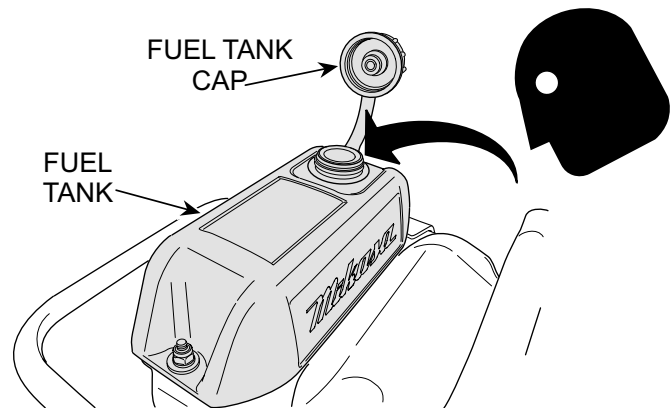

Figure 5. Fuel Tank
2. If fuel is low, remove the fuel filler cap (Figure 5) and fill with only unleaded gasoline. Motor fuels are highly flammable and can be dangerous if mishandled. **DO NOT** smoke while refueling. **DO NOT** attempt to refuel the rammer if the engine is hot or running.